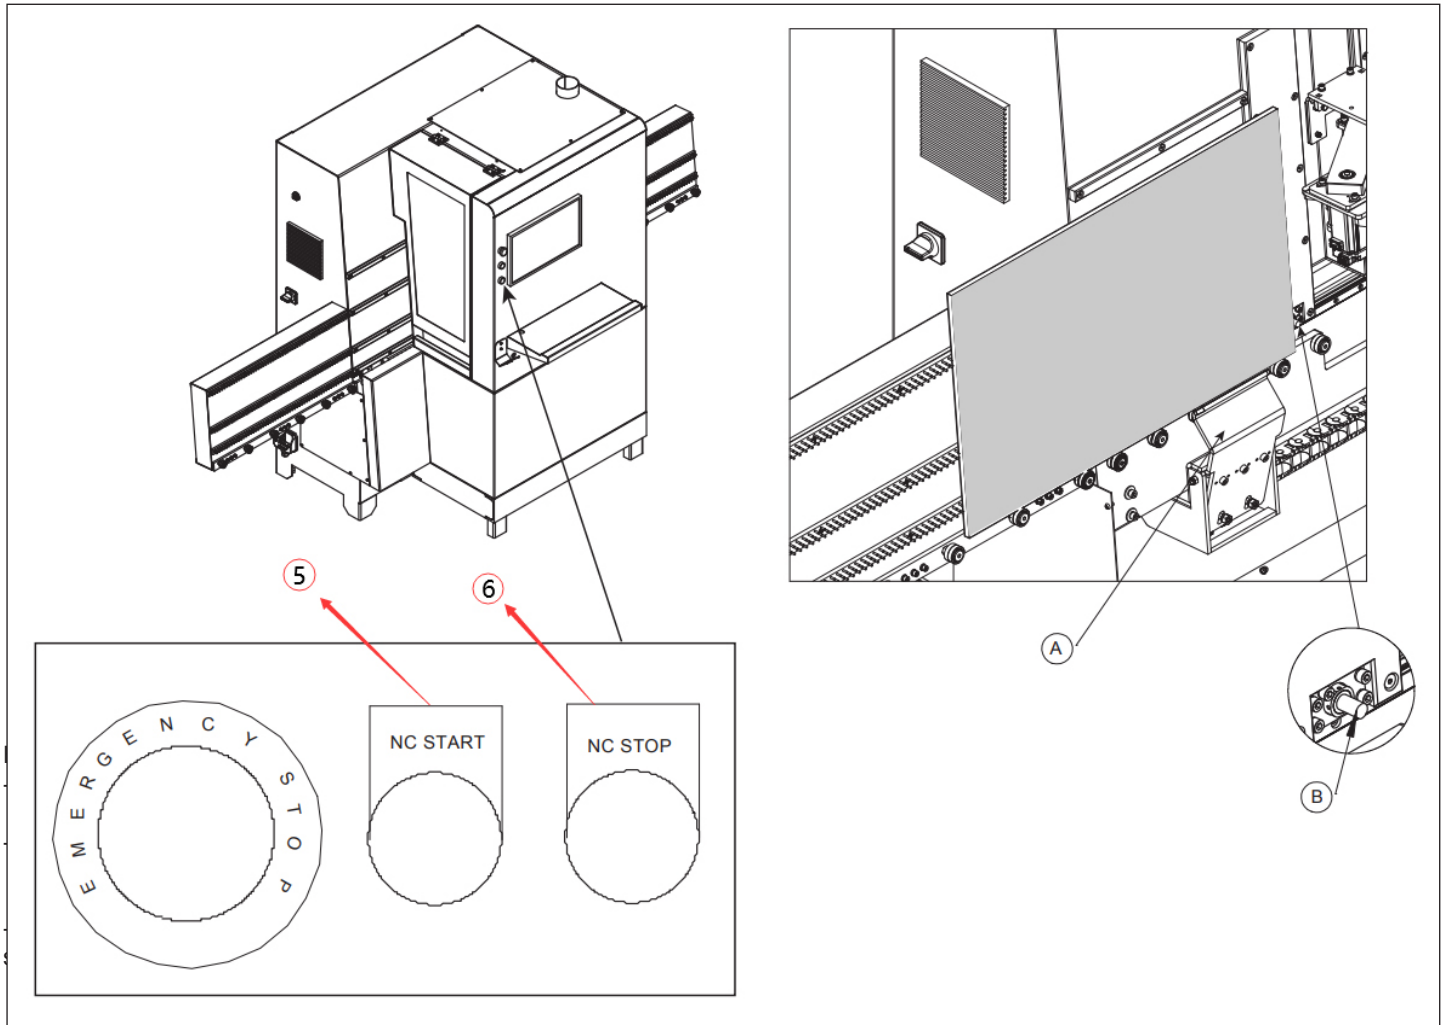

Fig. 6.6a
- 3) When the indicator light flashes, press the start button (No.5 in Fig. 6.6a) to return each axis to the standby position. The clamp is in the "opened" status.
- 4) Place the board at the workpiece location. (B in Fig. 6.6a)
- 5) When the indicator light flashes, press the "NC START" button (No.5 in Fig. 6.6a) to start the processing program.
When you need to check during the processing cycle, you can start the "pause" status by pressing the "NC STOP" button on the control panel. (Fig 6.6a)
- Press the "NC START" button on the control panel (No.5 in Fig. 6.6a)